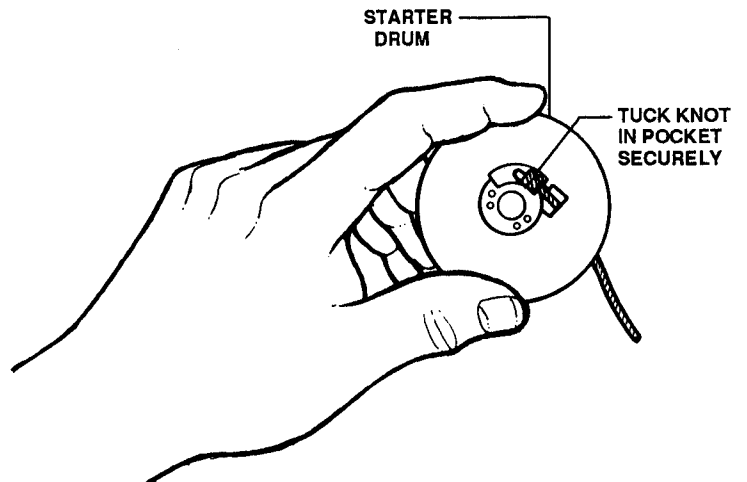

FIGURE 14
- Reinstall new rope with knot securely tucked away in the pocket as shown. Apply a light coat of grease to the spring side of the drum. See Figure 14.